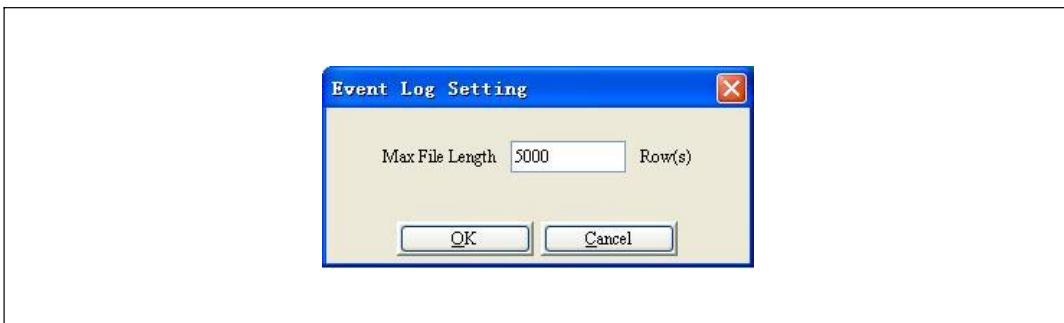

Figure 102. Event Log Setting Window
- 8 To set the maximum Event Log file length for any Dell UPS monitored by the Network Management Card, select **Event Log Setting** from the **SNMP** menu. The default file length is 5,000 rows, and the maximum value is 100,000 rows (see Figure 102).